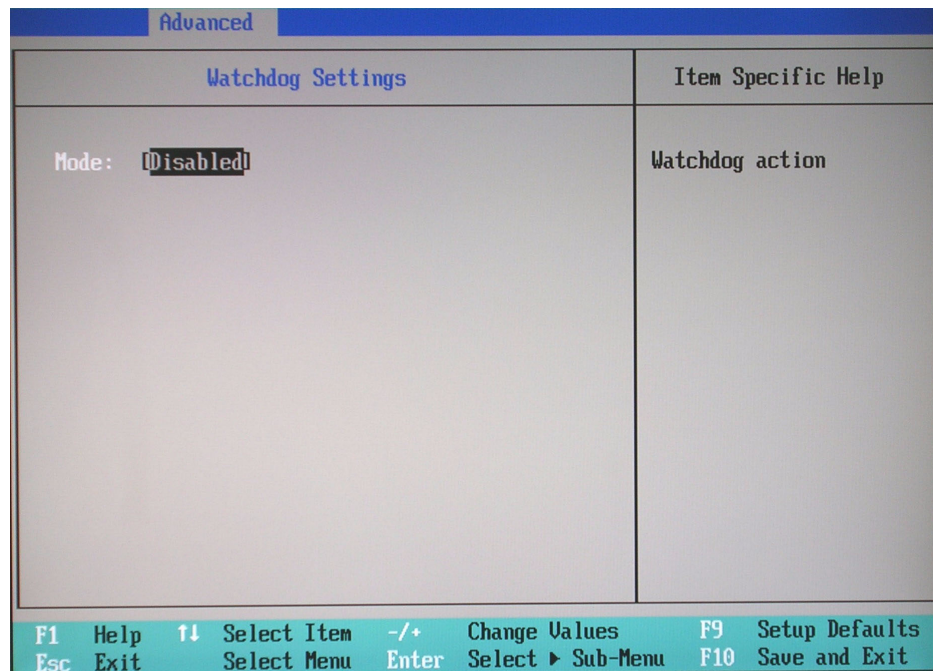

Figure 8-116 BIOS Advanced Watchdog Settings
Watchdog Settings	Figure 8-116 on page 8-113
21.) Set the parameters in the **Watchdog Settings** as shown above in Figure 8-116.